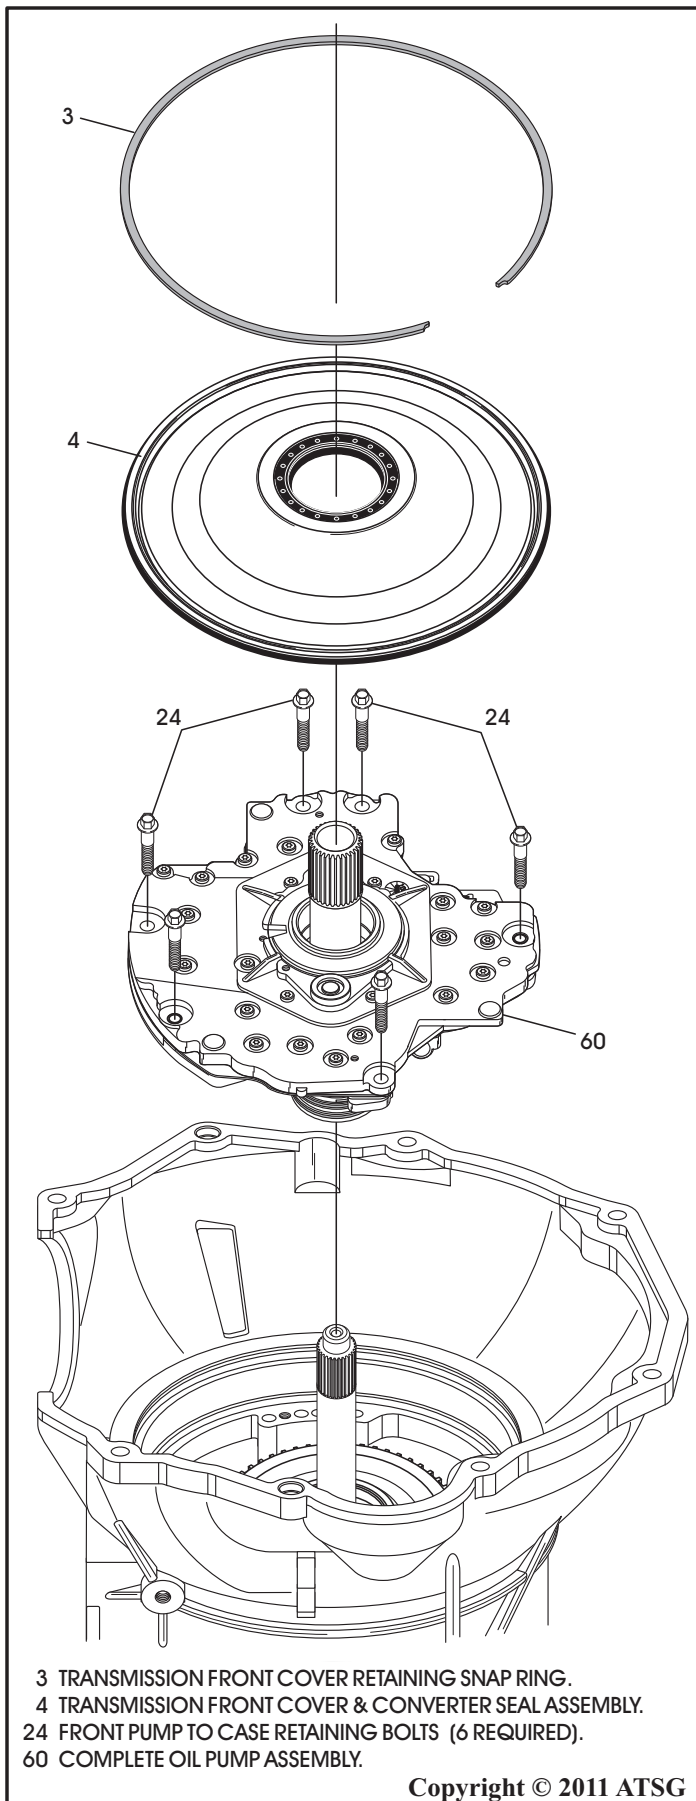

Figure 44
20. Remove the snap ring retaining the transmission front cover in the transmission case, as shown in Figure 44.
21. Reach through one of the case openings in the valve body area with a long blunted tool, and tap the transmission front cover from the case. Refer to Figure 44.
24. Remove the six bolts retaining the oil pump in the transmission case (See Figure 44).
25. Remove oil pump assembly from transmission case, as shown in Figure 44, and set aside for component rebuild section.